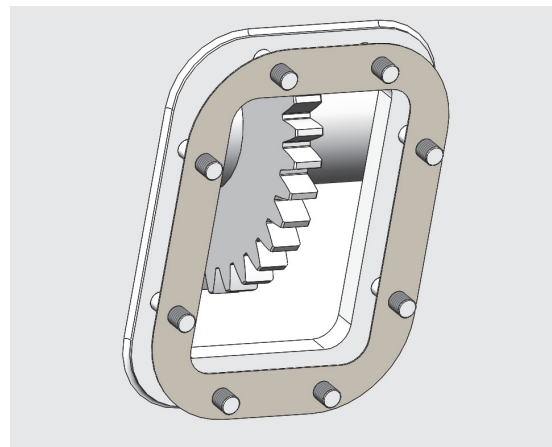

Fig. 4
9. Place the proper amount of gaskets (Use at least one gasket but do not stack more than 3 gaskets together) (Fig. 4). Usually one 0.020" gasket will be required, but more gaskets may be required when establishing proper backlash. Do not use gasket sealer because you may need to add or remove a gasket when adjusting the backlash.